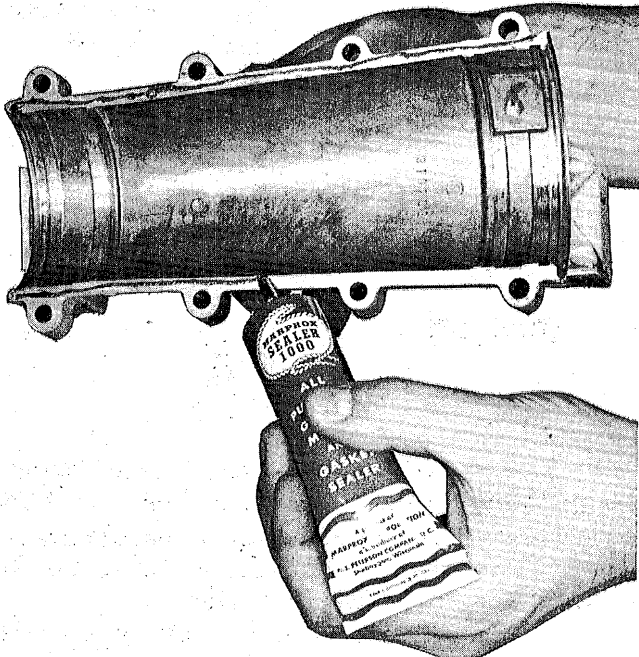
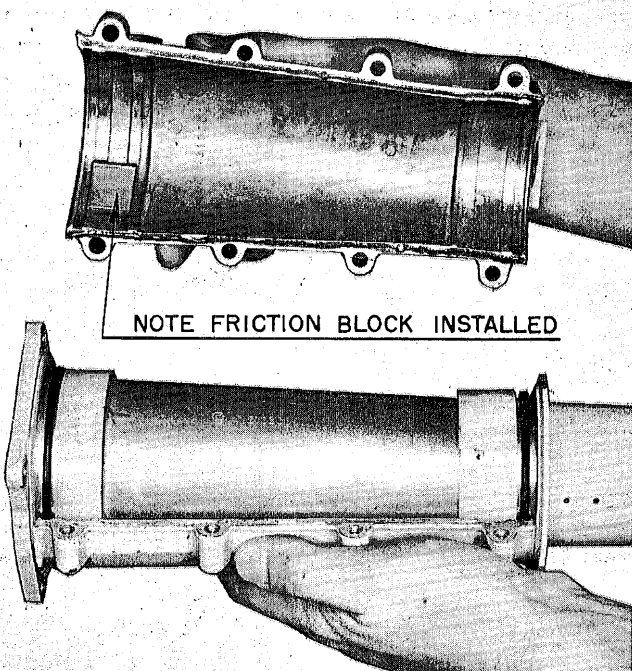

Figure 16
Figure 17
4. Coat matching surface of front swivel bracket half with **SEALER 1000** prior to assembly (Figure 16), to guard against water entry between these two machined surfaces. Once coated with sealer, fit the front swivel bracket half to the rear half quickly as **SEALER 1000** dries rapidly. It is also best to be sure O-rings, thrust washer and linings are properly arranged for assembly as shown in Figure 17 prior to coating front bracket with sealer so that no time is lost during the fitting operation.